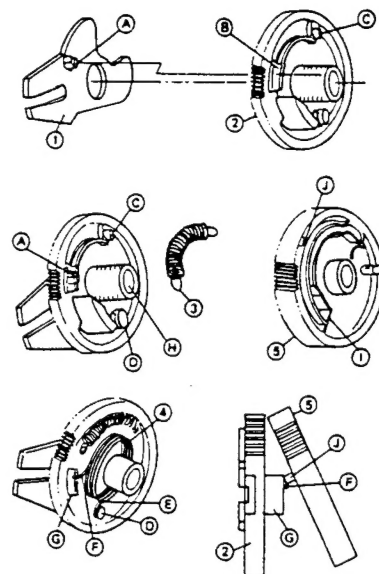

Figure 1-3.
- Set up of worm wheel assembly (Fig. 1-3)
1. Put the tab ④ of the drive arm ① into the hole ⑤ of the drive gear ②.
2. Hook both ends of the drive spring ③ onto the tab ④ of the drive arm and tab ⑥ of the drive gear respectively.
3. Hook one end ⑦ of the drive reciprocating spring ④ onto the tab ⑩ of the drive gear assembly and mount another end ⑧ of the drive reciprocating spring onto the tab ⑨ of the drive gear: this time, hold the end ⑧ of the drive reciprocating spring by hand.
4. Fit the tab of the worm wheel gear ⑤ onto the tab ⑥ of the drive gear.
5. Using a tapered screwdriver, hook the end ⑦ of the drive reciprocating spring onto the tab ⑩ of the worm wheel gear: check that both ends of the drive reciprocating spring have been engaged with the respective tabs of the drive gear assembly.
6. Holding the drive gear by hand, turn the worm wheel gear by the other hand counterclockwise. Then the tab ⑥ of the drive gear will be engaged with the hole ① of the worm wheel gear ⑤.